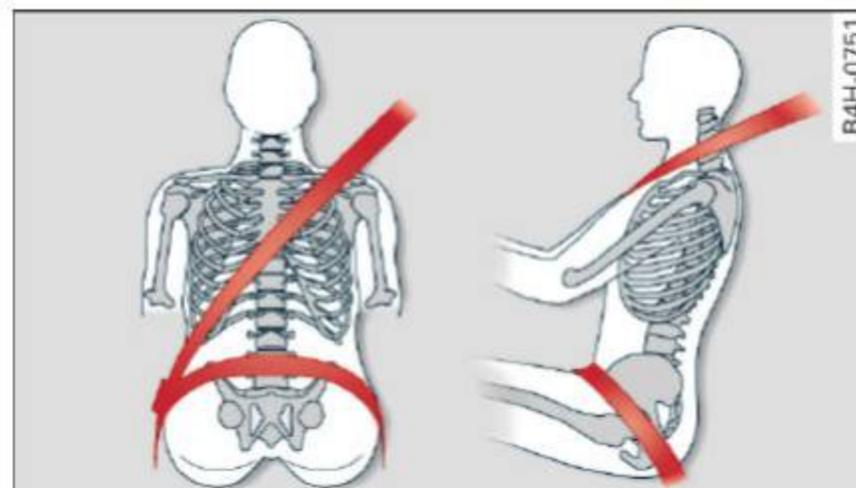

Fig. 129 Safety belt position
- The shoulder belt should lie as close to the center of the collar bone as possible and should fit well on the body. Hold the belt above the latch tongue and pull it evenly across the chest so that it sits as low as possible on the pelvis and there is no pressure on the abdomen. The belt should always fit snugly ⇒ *fig. 129*. Pull on the belt to tighten if necessary.
- The lap belt portion of the safety belt must be positioned as low as possible across pelvis and never over the abdomen. Make sure the belt lies flat and snug ⇒ *fig. 129*. Pull on the belt to tighten if necessary.